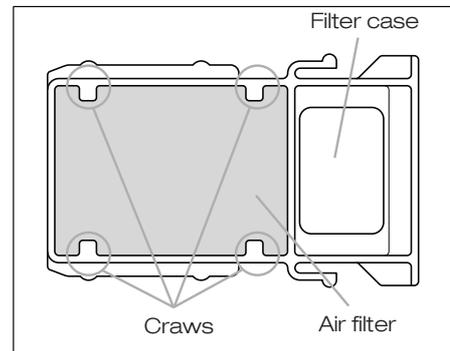

Figure 21
2. Set new air filter in the filter case. (See Figure 21)